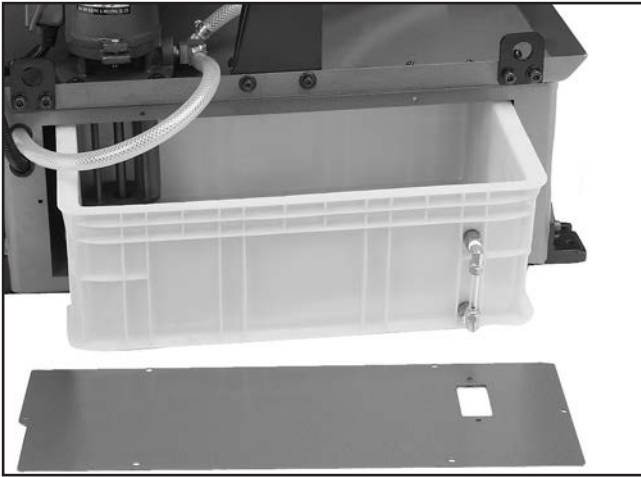

Figure 25. Coolant system reservoir and cover.
1. Access the reservoir by removing the front panel (see **Figure 25**).